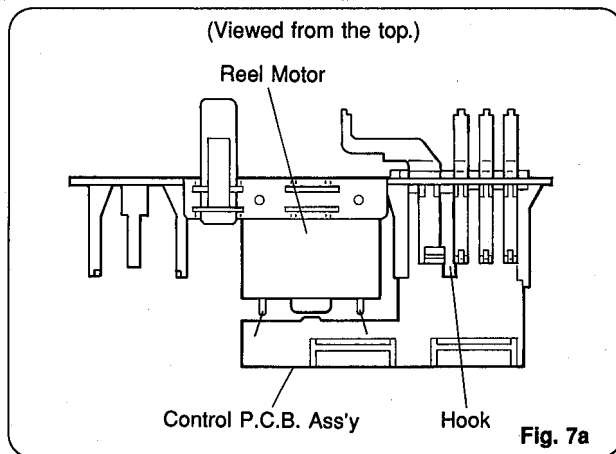

Fig. 7a
- f. Pull off 1 hooks and then remove the Control P.C.B. Ass'y in Fig.7a.